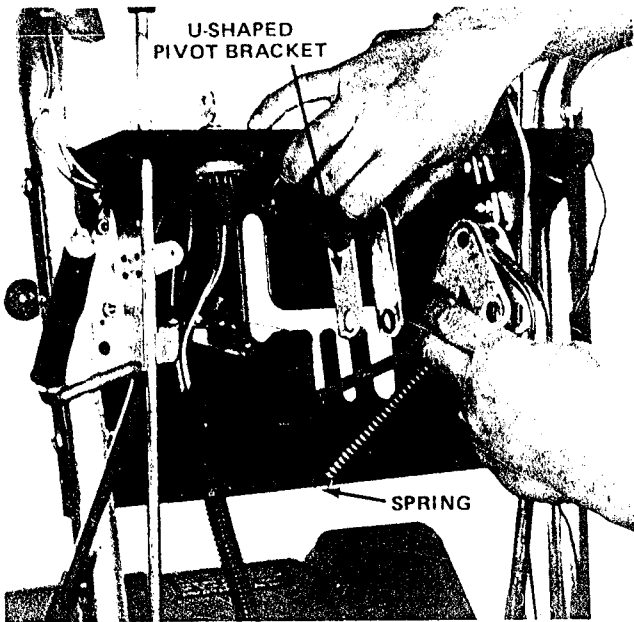

Figure 36
2. Disengage back of wheel drive control from U-shaped pivot bracket by removing hair pin cotter, flat washer, and clevis pin (Fig. 6). Next, move control away from U-shaped pivot bracket (Fig. 36).
3. If snowthrower does not drive in reverse or forward speeds, rotate U-shaped pivot bracket (Fig. 36) outward — counterclockwise — one complete turn. By contrast, rotate pivot bracket inward — clockwise — if drive does not come out of gear.